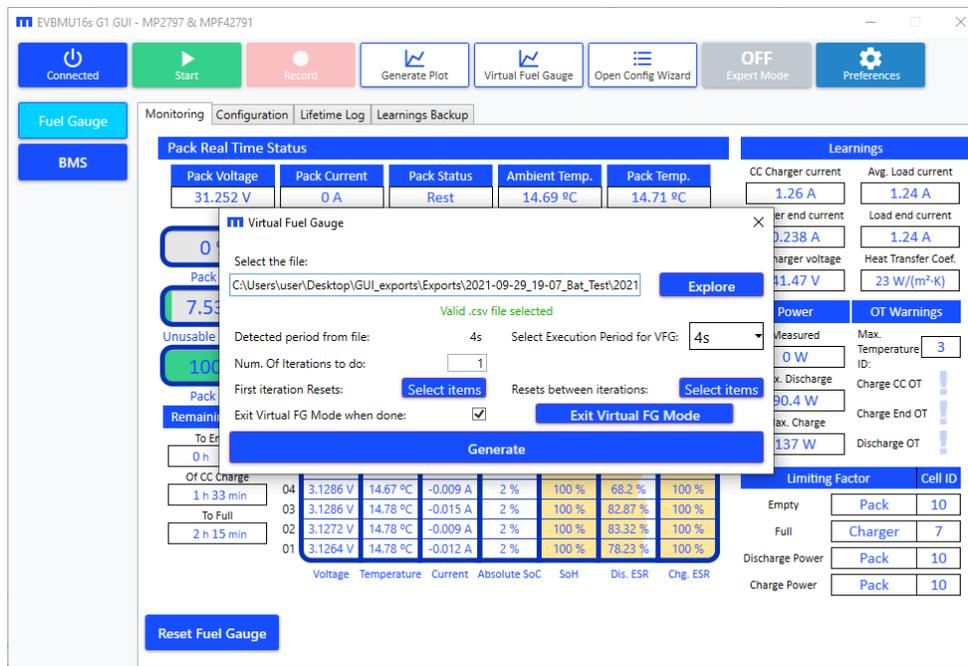

Figure 59: Virtual Fuel Gauge – Valid File Selected
4. Select the number of iterations to run on the same data file, and users can select which fuel gauge estimates can be reset during the first iteration (and between iterations). For example, if the start of the file does not match the end, reset everything before the first iteration, and only reset the state-of-charge (SoC) between iterations (see Figure 59).
5. Select “Exit Virtual FG Mode when done” to disable virtual fuel gauge mode on the evaluation board once all the iterations are done. Then the fuel gauge runs with the readings from its own board, and not the readings from the GUI. Otherwise, this process can be manually exited by clicking “Exit Virtual FG Mode” (see Figure 59 on page 44).